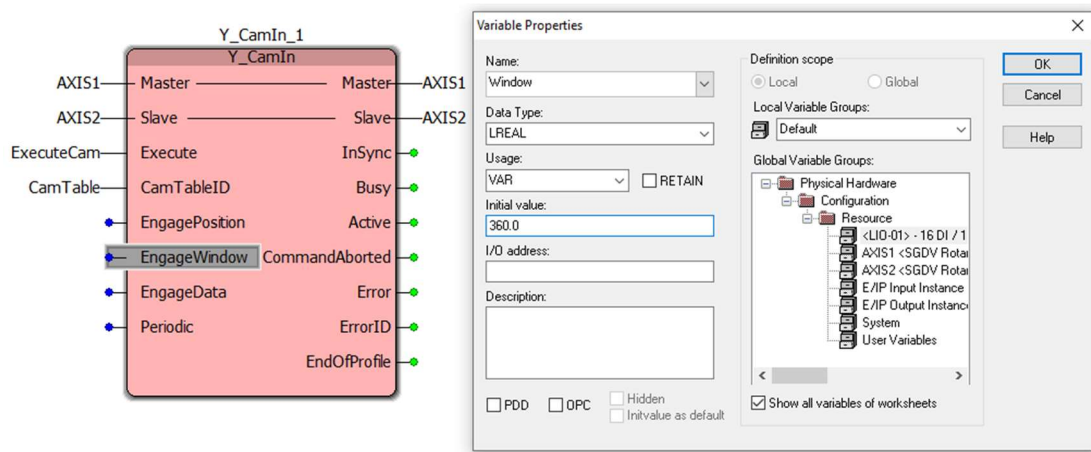

Figure 22: EngageWindow Variable Properties
- Engage Window details are shown in Figure 22.